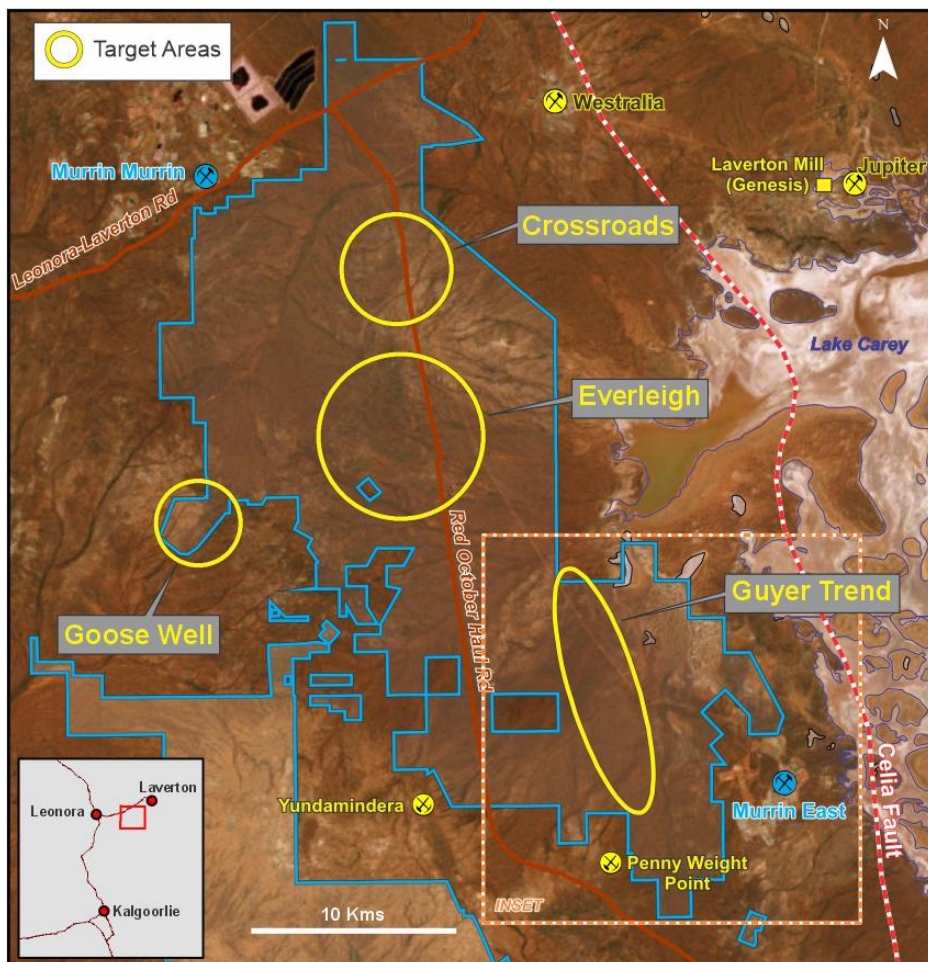

Figure 1: 14 Mile Well Project area, highlighting the location of the Guyer Trend and other key target areas. Refer to Figure 3 for inset.
The board of Iceni Gold Limited (ASX: ICL) (Iceni or the Company) is pleased to announce the results from an early stage aircore (AC) drilling program along the 15km long Guyer Trend at its flagship 14 Mile Well Gold Project (14MWGP or Project) located midway between the gold mining towns of Leonora and Laverton. The Project adjoins (Figure 1) the Laverton Gold Operation, which contains the Jupiter and Westralia gold deposits owned by Genesis Minerals Limited (ASX: GMD)
The Guyer Trend (Guyer) is located in the southeastern part of the 14MWGP. It was one of four key target areas identified from a targeting review in May 2024 that recognised priority areas to focus exploration on during CY2024 for a gold discovery (Figure 1). The trend lies over a northerly striking belt of mafic greenstone sequences, bounded by the Danjo Granite to the west and to the east by intermediate volcanic rocks (Figure 3).